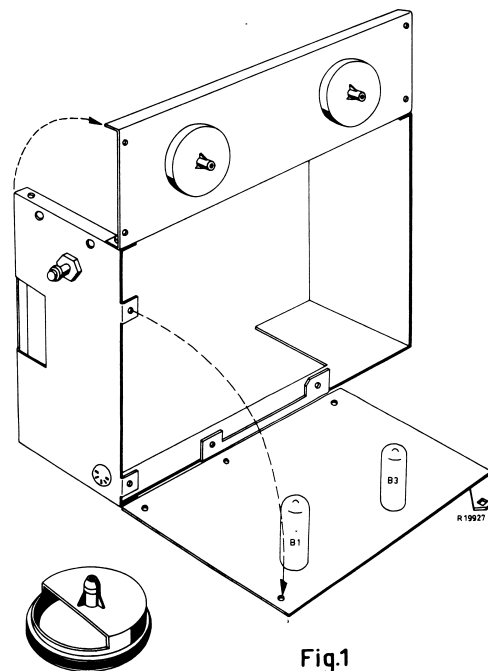

Fig.1
- the four screws (see figure 1) are removed and
- By removing the five screws (see figure 1) and by loosening at the same time the bowden cable of the recording playback switch again, it is possible to place the whole print sheet beside the chassis. Then the apparatus still also functions normally.
- In figure 1 a sawn-open reel disc has been drawn which can be easily made. With the aid of same it will be possible to check the brakes and braking brackets and to adjust them visually.